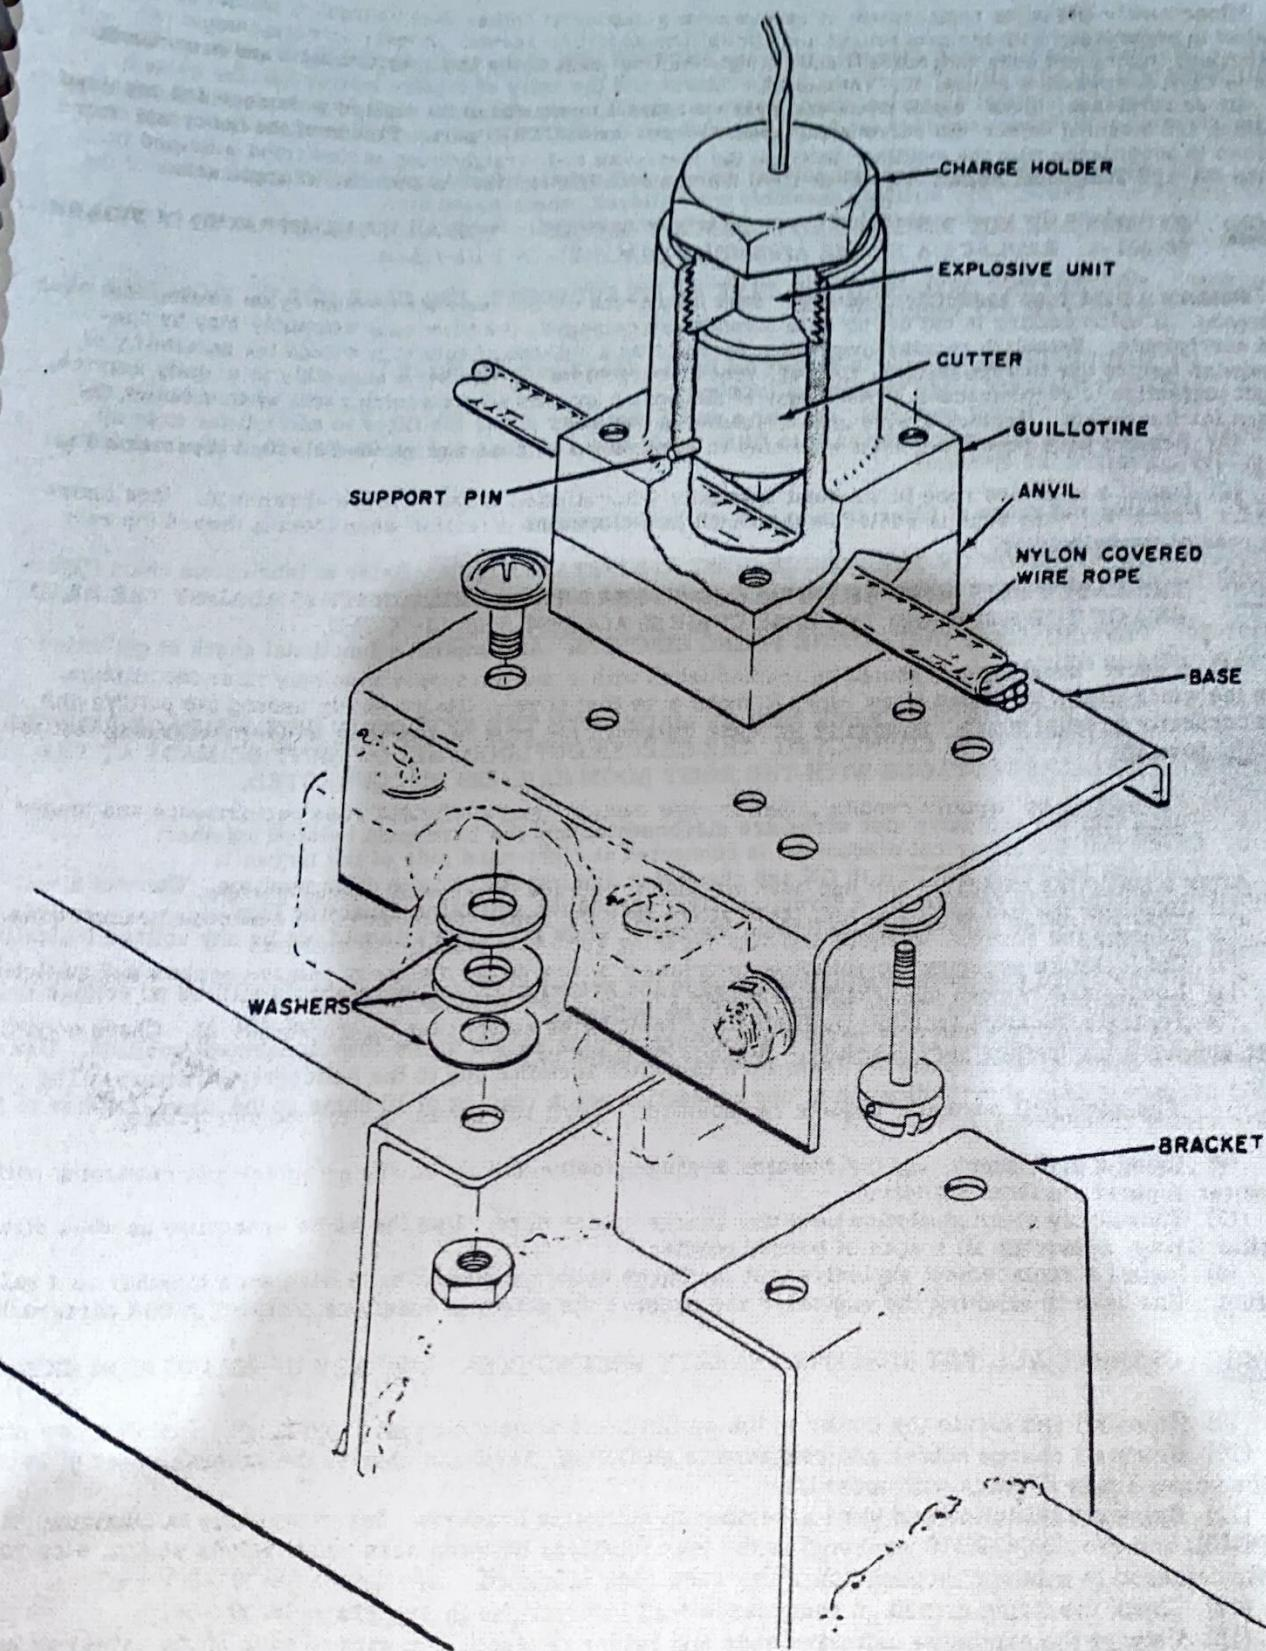

Figure 96-301-3. Guillotine
- (1) Unsolder the two explosive unit leads attached to the capacitor mounted on guillotine bracket base.
- (2) Remove the screws, washers and nuts securing guillotine base to its brackets.
- (3) Cut lockwire securing the guillotine attachment screw heads together; remove screws and guillotine.
- (4) Loosen and remove the hexagonal-headed charge holder from guillotine.
- (5) Separate the anvil from the guillotine and remove the cutter (see figure 96-301-3). Check condition of cutter and anvil for further serviceability. Replace damaged parts.
(9) Reinstall and locate the cutter in the guillotine to align the support pin holes. Install a new pin.
(10) Reinstall charge holder and reassemble guillotine, anvil and base in the reverse order of removal. Lockwire screw heads in pairs with lockwire.
(11) Reinstall guillotine and base assembly on guillotine brackets. Insert washers (a maximum of one AN960PD10L and two AN960PD10 washers) at the four locations between base and brackets so that wire rope is correctly centered in passage through guillotine when rope is loaded. (See figure 96-301-3.)
(12) Check the firing circuit in accordance with instructions in paragraph 96-301-60.
(13) Untwist the explosive unit wire ends and solder in place, one wire to each of the capacitor lugs.